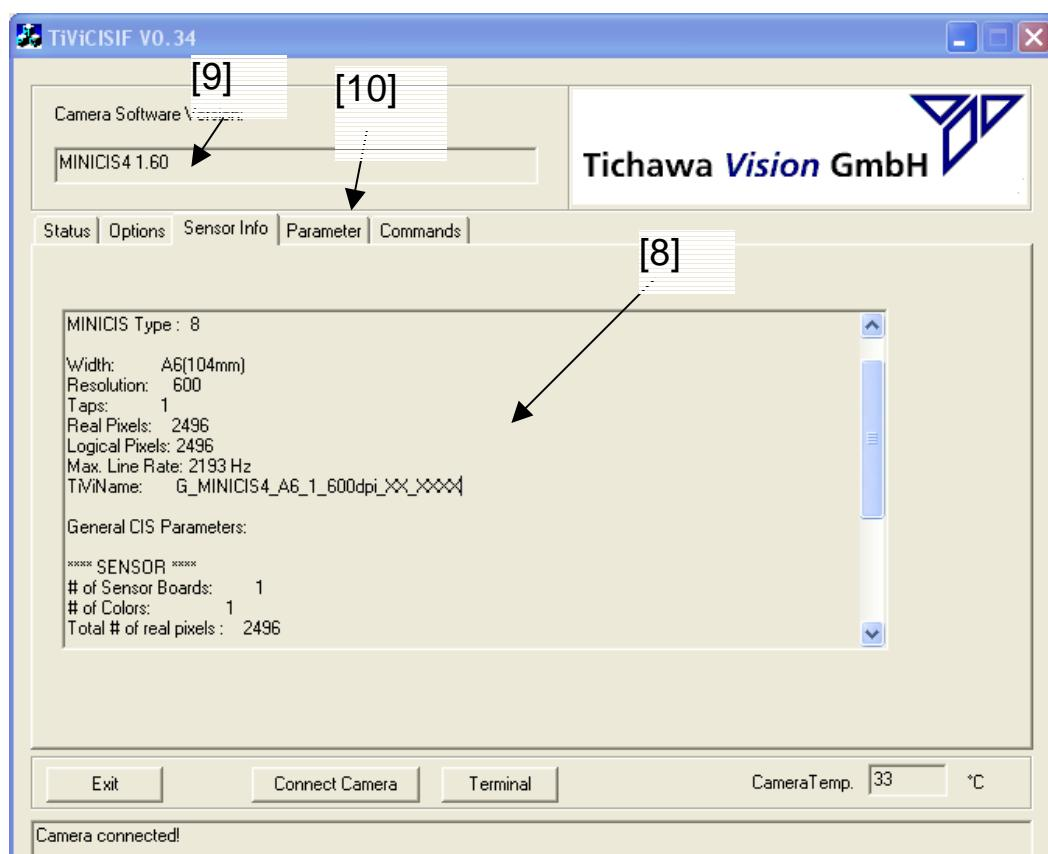

Figure 3 – sensor info
- i) In the Sensor Info you are able to see the sensor specifications [8] and the Camera Software Version [9] (**figure 3**). This menu is only for your information and could help to write an camera file.
- j) After you checked this information you can go to the parameter menu [10] **figure 3**